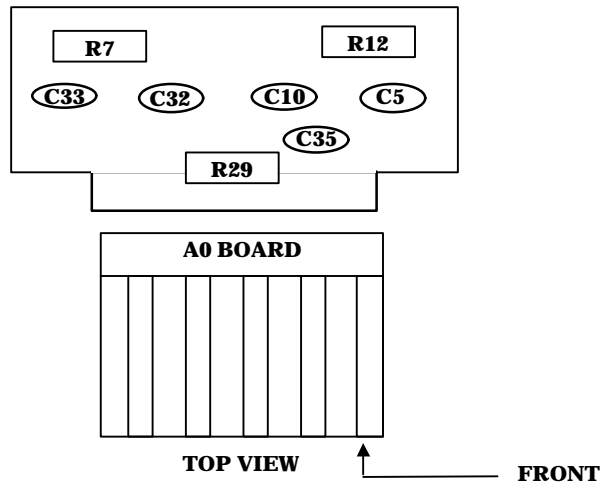

Figure 3. Input board - adjustment locations.
- (2) Connect TI **OUTPUT HIGH** to **INPUT HIGH** and **LOW** using tee connector and two cables.
- (3) Press keys and enter values using **DATA ENTRY** keys as listed in (a) through (g) below:
- (4) Adjust spectrum analyzer controls to observe a 1 kHz signal.
- (5) Alternately adjust A0R29 and A0C35 (fig. 3) for minimum indication on spectrum analyzer (R).
- (6) Press **SPCL** key and enter **27 ENTER** using **DATA ENTRY** keys. Adjust A0R12 (fig. 3) for minimum indication on spectrum analyzer.
- (7) If <-75 dB was not achieved in (5) or (6) above, then alternately adjust A0C5, A0C10, and A0R12 (fig. 3) for minimum indication on spectrum analyzer (R).
- (8) Press **SPCL** key and enter **26 ENTER** using **DATA ENTRY** keys.
- (9) Adjust A0R7 (fig. 3) for minimum indication on spectrum analyzer (R).
- (10) If <-75 dB was not achieved in (9) above then alternately adjust A0C32, A0C33, and A0R7 (fig. 3) for minimum indication on spectrum analyzer (R).
- (11) Disconnect spectrum analyzer from equipment setup.
- (12) Disconnect TI **OUTPUT HIGH** from **INPUT HIGH** and **LOW**.
- (13) Connect TI **OUTPUT HIGH** to **INPUT HIGH** and connect **OUTPUT LOW** to **INPUT LOW**.
- (14) Press keys and enter values using **DATA ENTRY** keys as listed in (a) through (l) below:
- (15) Adjust A0C5 (fig. 3) for a 100.0 percent indication on TI (R).
- (16) Press **SPCL** key and enter **26 ENTER** using **DATA ENTRY** keys.
- (17) Adjust A0C32 (fig. 3) for a 100.0 percent indication on TI (R).
- (18) Reverse **INPUT HIGH** and **LOW** connections and repeat (13) above.
- (19) Adjust A0C10 (fig. 3) for a 100.0 percent indication on TI (R).
- (20) Press **SPCL** key and enter **26 ENTER** using **DATA ENTRY** keys.
- (21) Adjust A0C33 (fig. 3) for a 100.0 percent indication on TI (R).